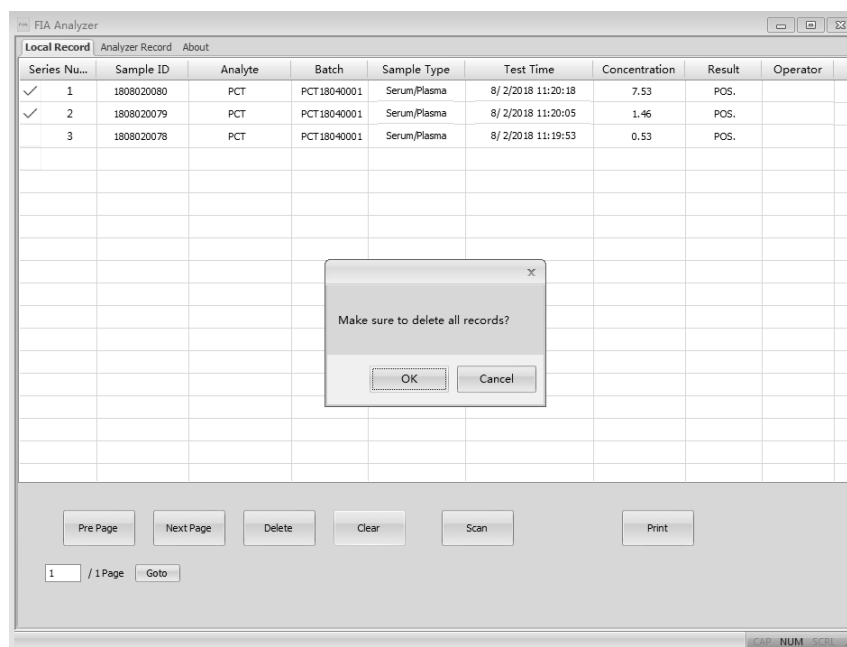

Fig 42
- **“Clear”**: Click **“Clear”** to clear all the records from the system. (Ref Fig 42). You will get a prompt to confirm the operation. Once you click **“OK”**, all the data will be cleared.